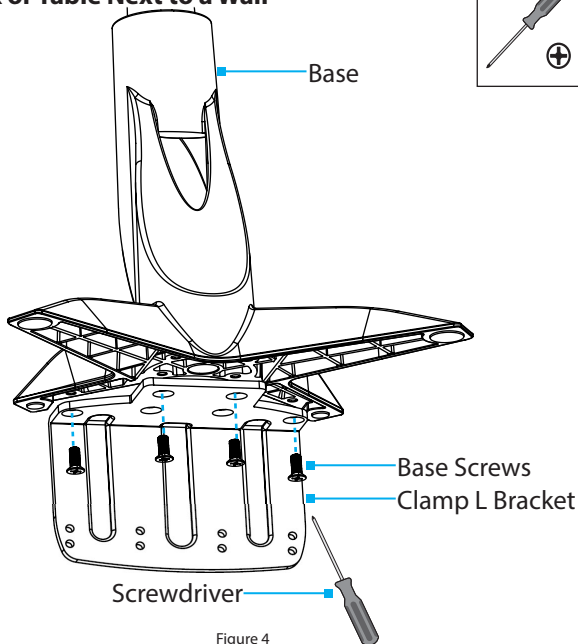

Figure 4
1. Align the **Clamp L Bracket** with the **Assembly Holes**, located on the underside of the **Base**. (Figure 4)